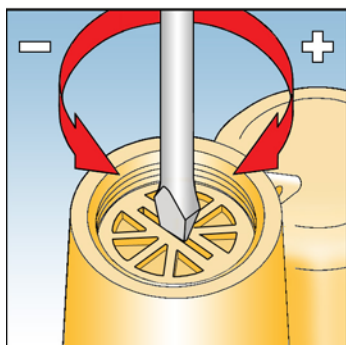

Fig. 10
- 33) Fully unscrew and remove the spring holder, See Fig. 10.